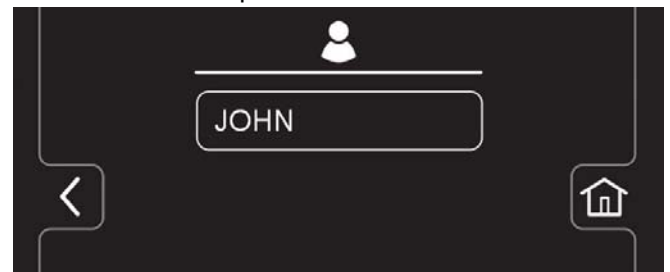

FIG. 175
- The new user profile is now saved to the operator profile list as shown (Figure 175). Multiple Operator and Supervisor user profiles can be added. Press the back arrow to return to the previous screen to add more user profiles.